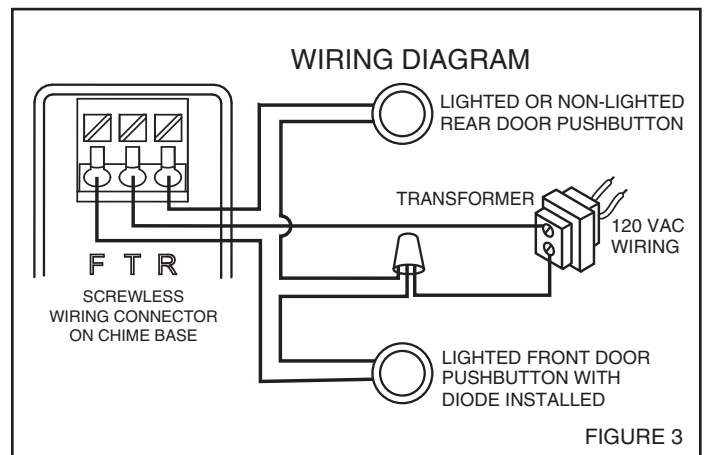

FIGURE 3
3. Route 2-conductor 18-22 gauge wire from the transformer screw terminals and from the pushbutton terminals to the chime location. (Figure 3)
- Connect wires to the screwless wiring connector as follows: Wire "F" to connector terminal "F"; wire "T" to connector terminal "T" and wire "R" to connector terminal "R" if installed. (Figure 3)